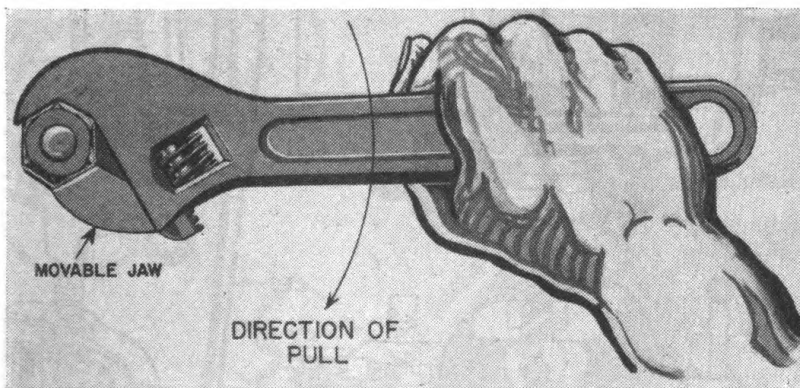

FIGURE 13.—Use of adjustable open-end wrench.
b. Use and care of wrenches.—In using the adjustable open-end wrench (fig. 13) adjust it so the jaws slip easily over the nut with
no great amount of "shake" or "backlash." A loose wrench is liable to slip or break and possibly injure the worker. The pull on the wrench should always be in the direction shown by the arrow in figure 13. In this illustration, for example, if the wrench were to be turned in the direction opposite to that indicated, it should first be turned over. When using the monkey wrench, turn the jaws up snugly against the nut; in selecting a socket, box, or open-end wrench, use one that fits closely on the nut, but not so tightly that it is hard to remove. To get maximum leverage when using any wrench, always pull at right angles to the wrench and to the center line of the bolt.